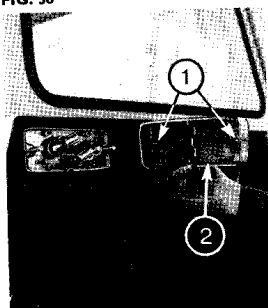

FIG. 40
1. Fig. 40. Remove the two screws (1) and lift off the cover (2).